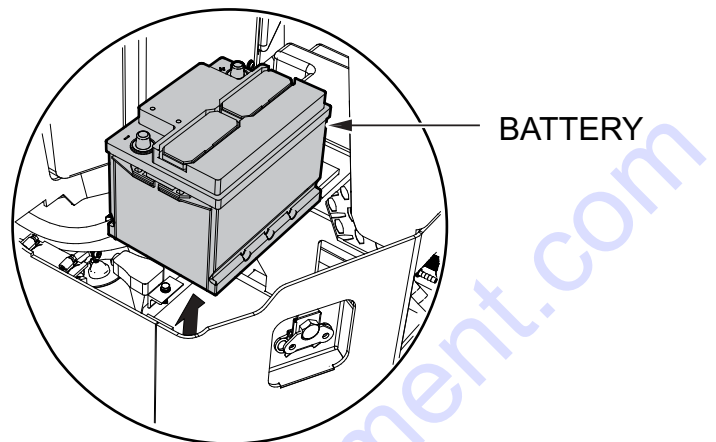

Figure 3. Battery Removal
2. Next, remove the battery (Figure 3) from the roller and set aside in a safe place. Remove the **negative** battery cable first.